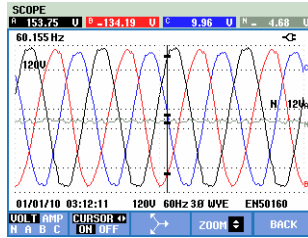

Figure 22-2. Waveform display, cursor on
- Press F2 to switch the Cursor on. Use the left/right arrow keys to move the Cursor horizontally along the waveforms. The value of the waveforms at the Cursor is displayed in the screen header as shown in Figure 22.2.